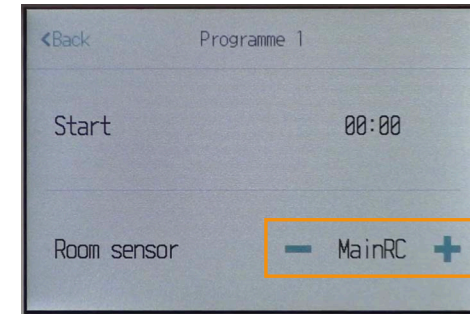

figure 6
- Change 'Room Sensor' to 'MainRC' (figure 6).
11. Select the 'Zone 1' area (figure 6, left box).
15. Select the 'DHW' area (figure 6, right box).
2. Using F2 and F3, ensure the icons match figure 6 for the middle two boxes.